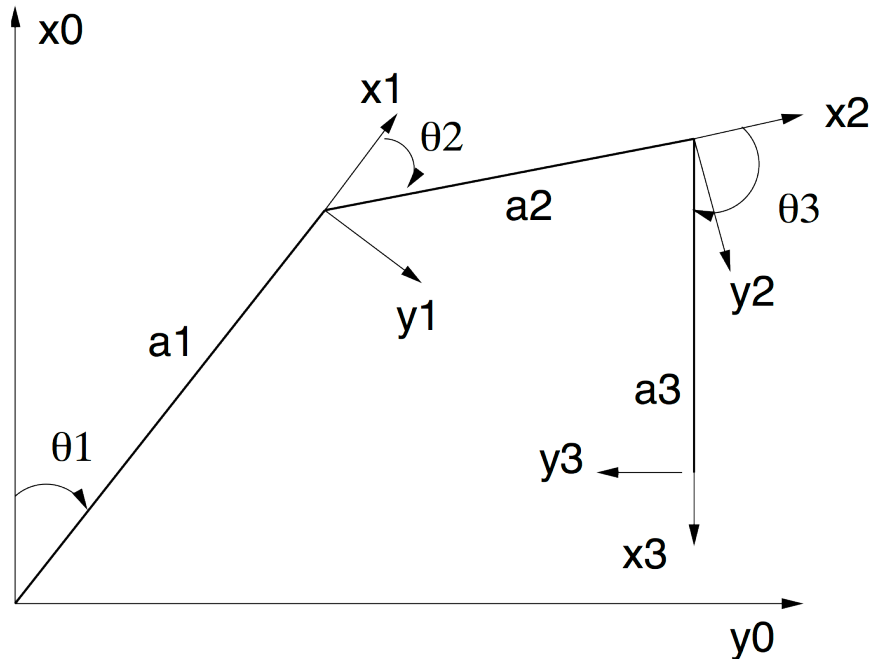

Figure 1: 3-joint planar manipulator.
Task 2.1 (4 points) Planar manipulator: Consider the planar robot manipulator shown in figure 1 with the joint angles θ_1 , θ_2 and θ_3 constrained by the following relation: $\theta_3 = 180^\circ - \theta_1 - \theta_2$.
2.1.1 (2 points): Determine the partial homogeneous transformations ${}^{i-1}A_i$, $i = 1, 2, 3$ for each of the coordinate frames shown in figure 1 and show the planar manipulator transformation ${}^0T_3 = {}^0A_1 {}^1A_2 {}^2A_3$ to be equal to